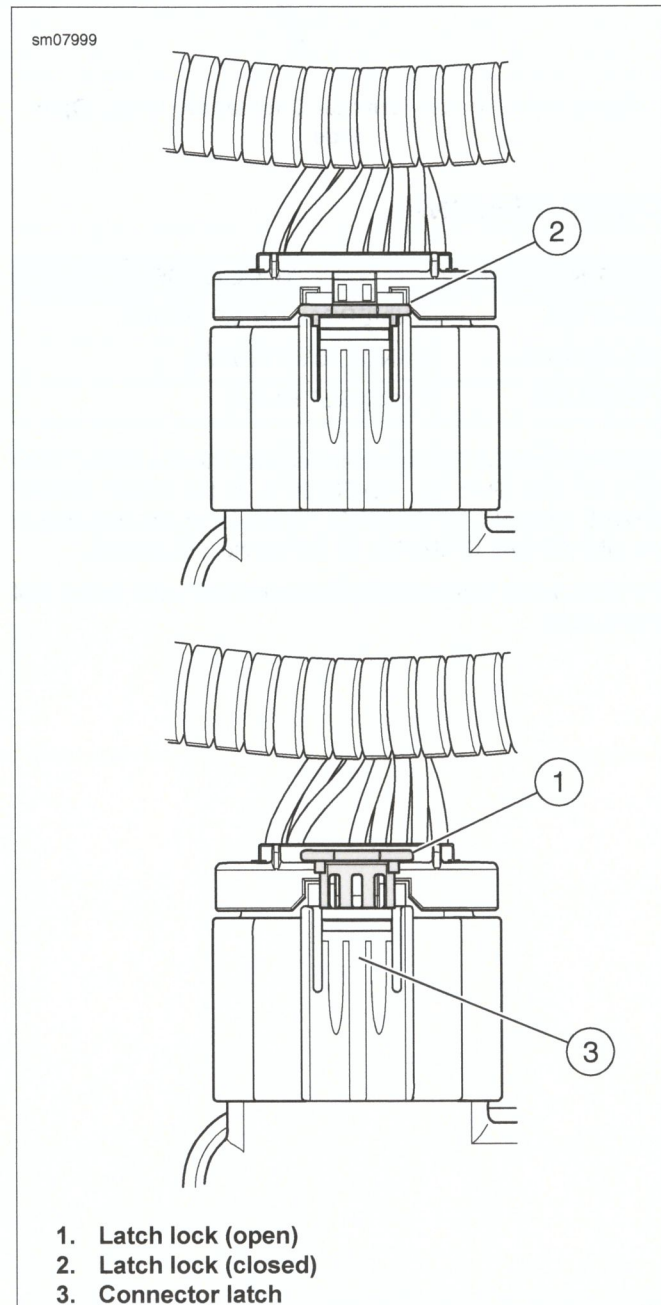

Figure A-29. Tyco GET 64 Sealed Connector Latch and Lock
1. See Figure A-29. Pull the latch lock open (1).
2. While pressing the latch (3), pull the connector housings apart.